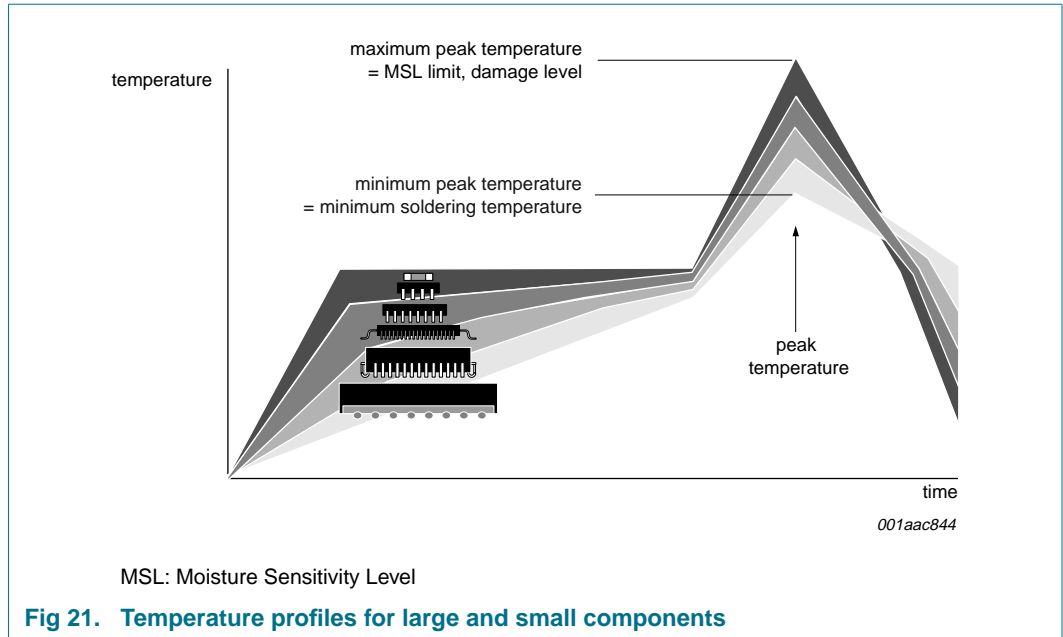

Fig 21. Temperature profiles for large and small components
- Lead-free versus SnPb soldering; note that a lead-free reflow process usually leads to higher minimum peak temperatures (see Figure 21) than a SnPb process, thus reducing the process window
Studies have shown that small packages reach higher temperatures during reflow soldering, see Figure 21.